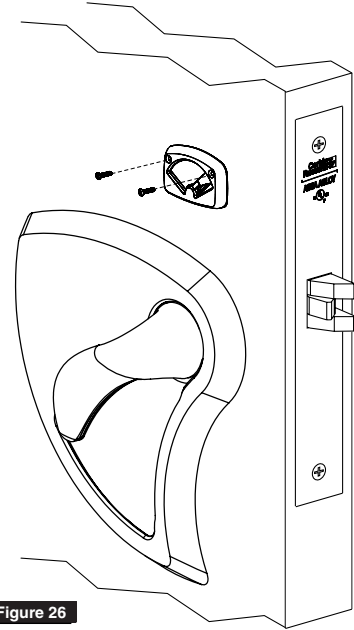

Figure 26
1. Install turn-piece loosely using two turn-piece mounting screws. (Figure 26)